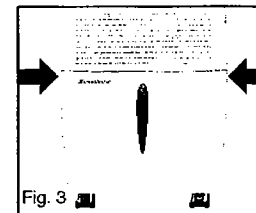

Fig. 3
- Remove the water tank from the cabinet. See Fig.3